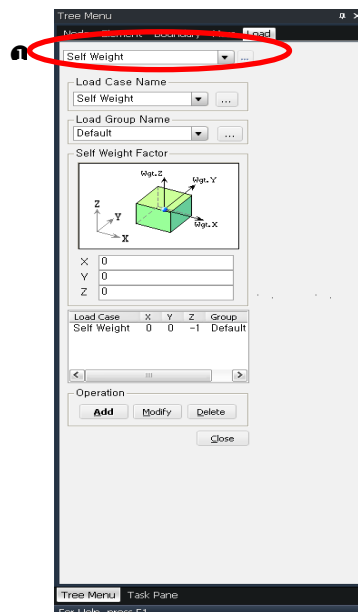

Figure 2.18 Data Entry of Self Weight
1. Select *Self Weight* in the functions selection field (Fig.2.18–❶).